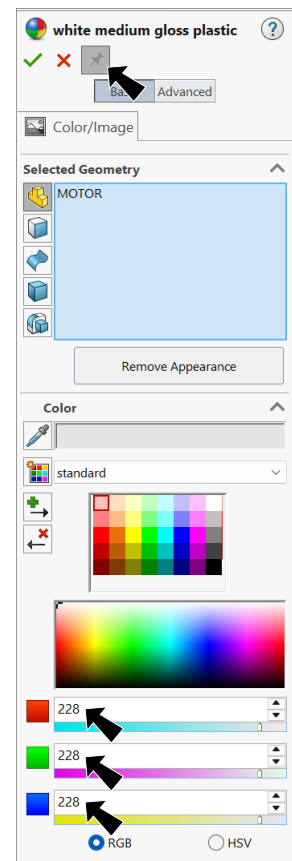

Fig. 70
Step 3. In the Appearances Property Manager, under Color, Fig. 70